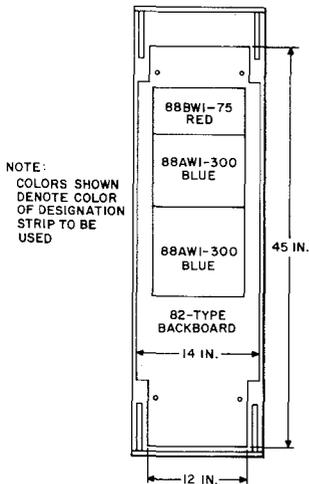

Fig. 8—Distribution Terminal Mounted in H-type Cable Terminal Section
5.03 Mount 75-pair wiring block (red designation strips) in the **upper** part of the cable terminal section and 300-pair wiring blocks in the **lower** part of the cabinet as shown in Fig. 8.